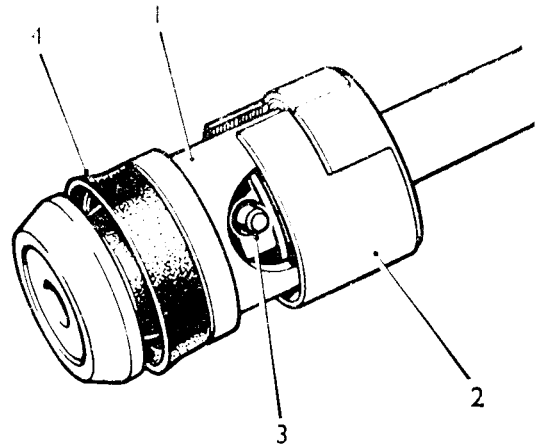

Fig. Mb.4
14. Prise off the rubber seal from the head of the slave piston. Open the retaining clip with a small screwdriver to expose the connecting pin, which may then be driven out to separate the piston from the rod (see Fig. Mb.4).